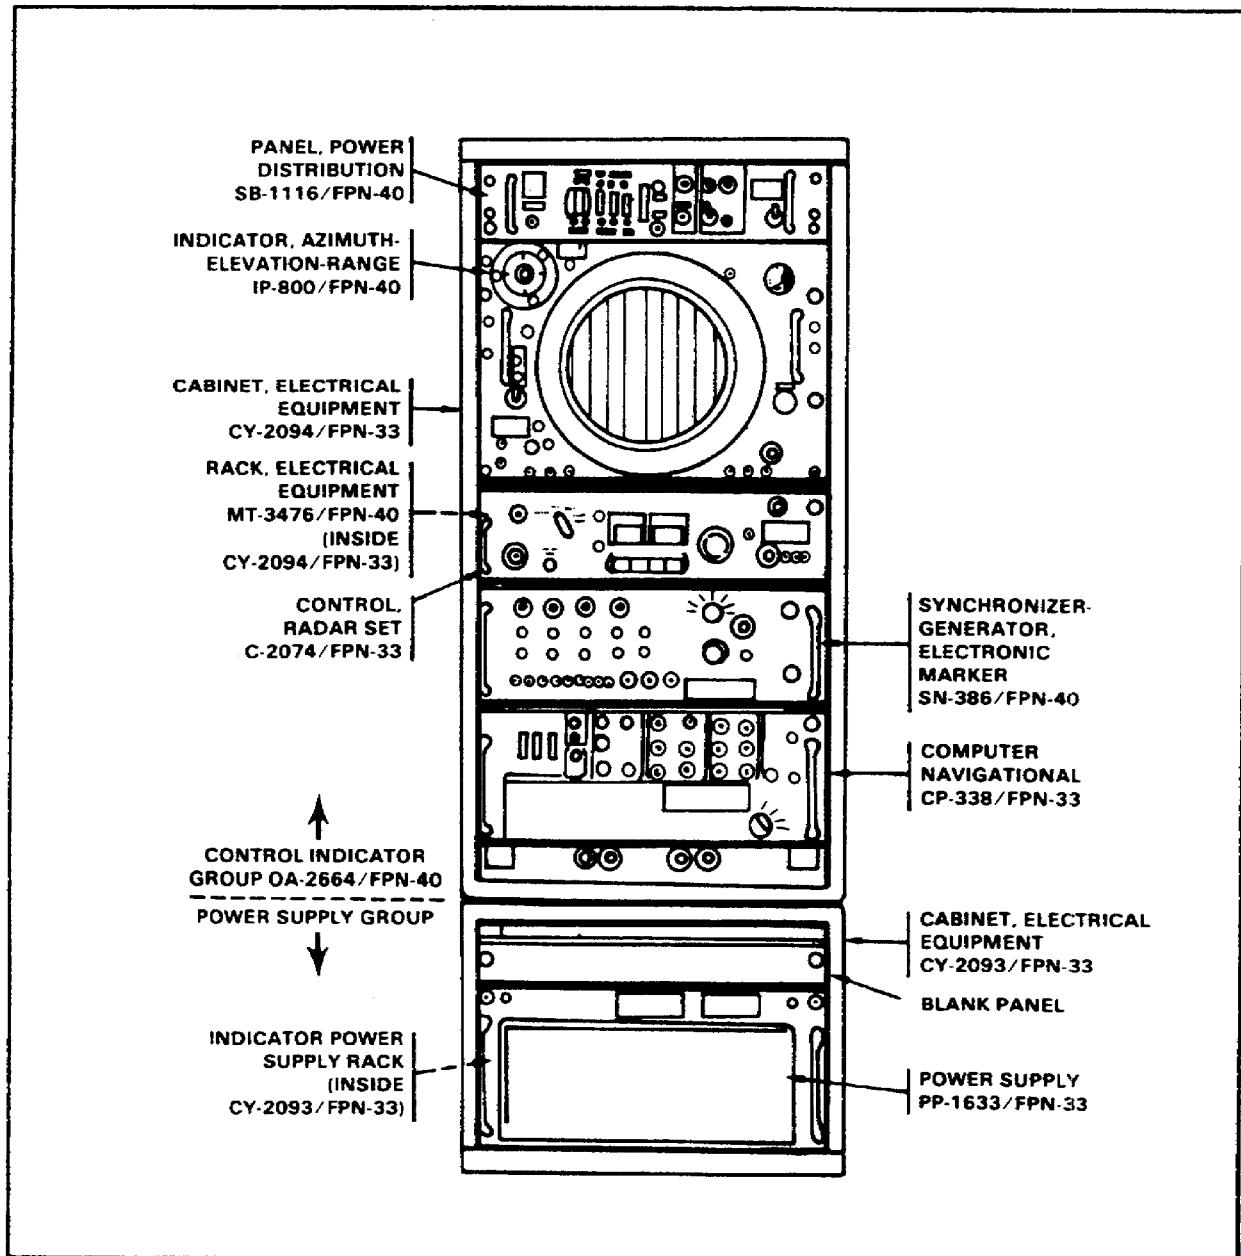

Figure 25. Control indicator group OA-2664/FPN-40.
b. Locate the following drawers on control indicator group OA-2664/FPN-40. (See Figure 25.)
- (1) Panel, power distribution SB-1116/FPN-40.
- (2) Indicator, azimuth-elevation-range IP-800/FPN-40.
- (3) Control, radar set C-2074/FPN-33.
- (4) Computer, navigational CP-338/FPN-33.
- Computer, navigational CP-338/FPN-33 (Figure 25)